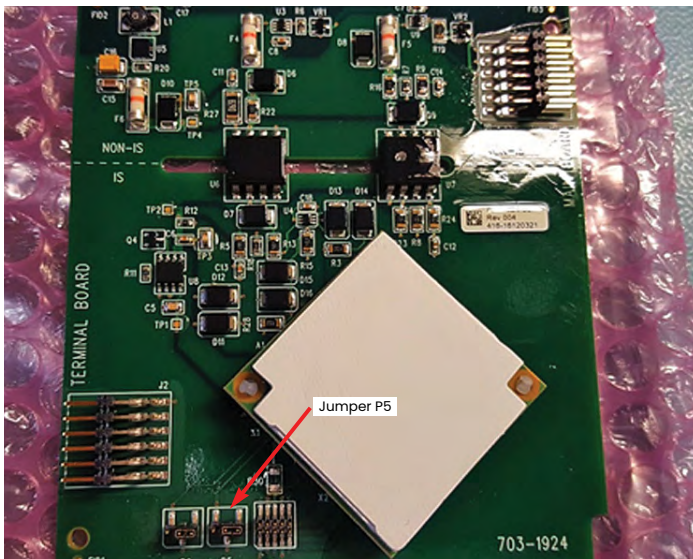

Figure 34: P5 on XMT1000 PCB
2. Locate the jumper **P5** (see *figure 34* below).